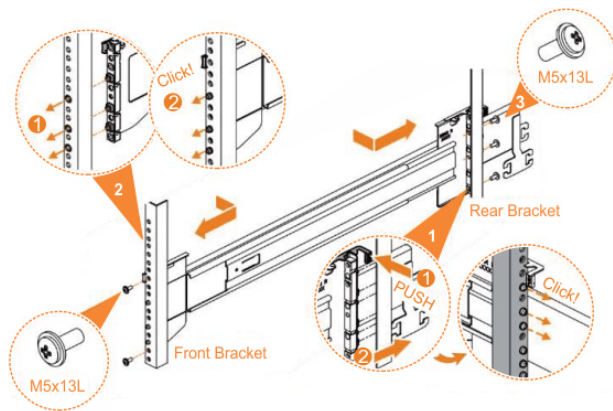

Figure 53. Installing the rail assembly to the rack frame
6. Use the M5 screws to install the outer rail member and bracket assembly to the rack, as shown in Figure 53 on page 86.